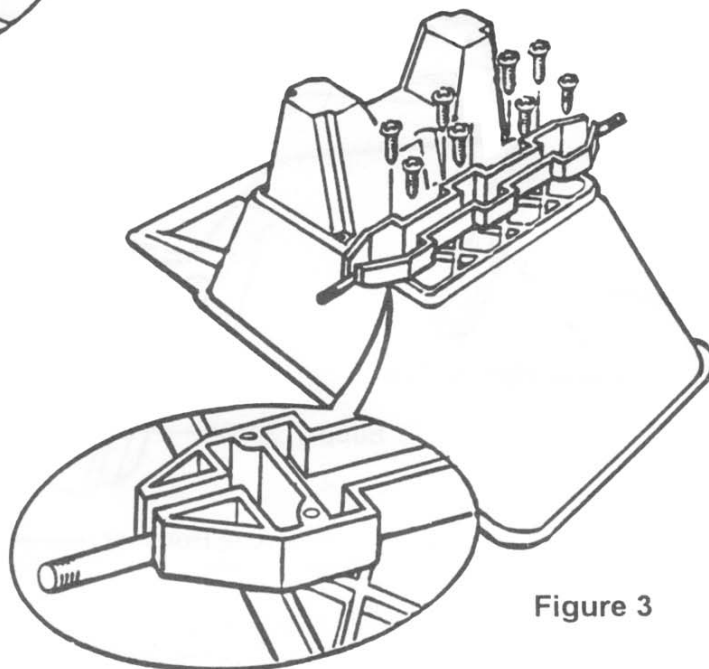

Figure 3
4. Insert axle through axle retainer and place assembly on bottom of cart. Center axle in axle retainer making sure hole in axle is visible. Secure retainer to body with ten (10) 1/4" -- 14 x 3" screws. See Figure 3.
**Caution:** See detail in Figure 3 for proper orientation of axle retainer to ensure proper side of axle retainer is in the up position.